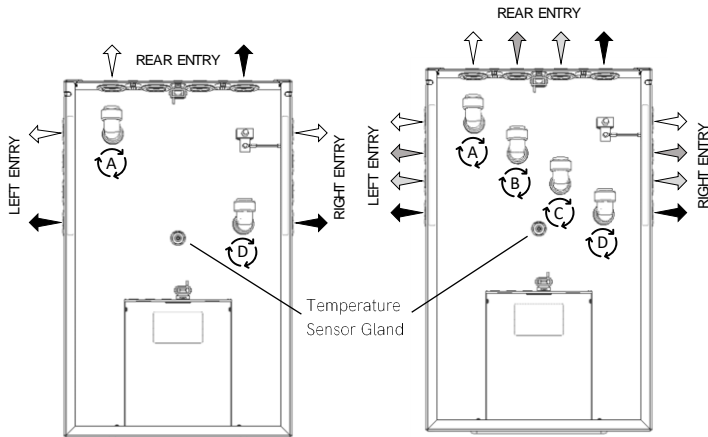

Figure 6 - Thermino ePlus Ports (70-210 left, 300 right)
- Rotate the elbows to the side you wish to connect the hydraulics (left, right or back) (Figure 6).
- For Thermino 70, 150 & 210 ePlus products, the cold water inlet must be connected to Port D & the hot water outlet to Port A (Figure 6, left hand side).
- For Thermino 300 ePlus products, the cold water inlet must be branched into Port's C & D and the hot water outlet branched into Port's A & B (Figure 6, right hand side).